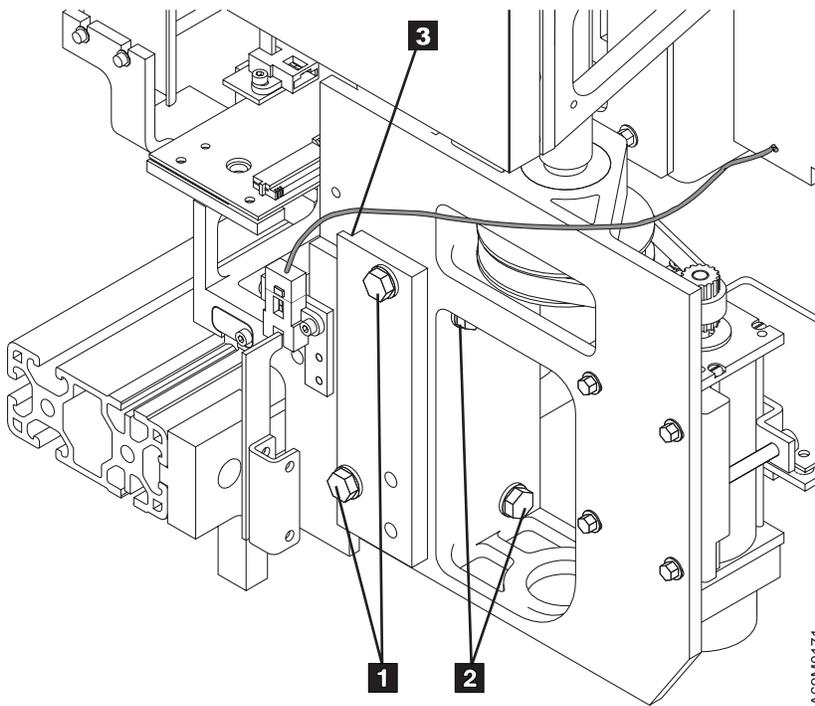

Figure 162. Y-Axis Mast – Bottom
7. Refer to Figure 162 on page 669. Loosen the two screws **1** on the left side of the Y-axis mast assembly (see Figure 162 on page 669).